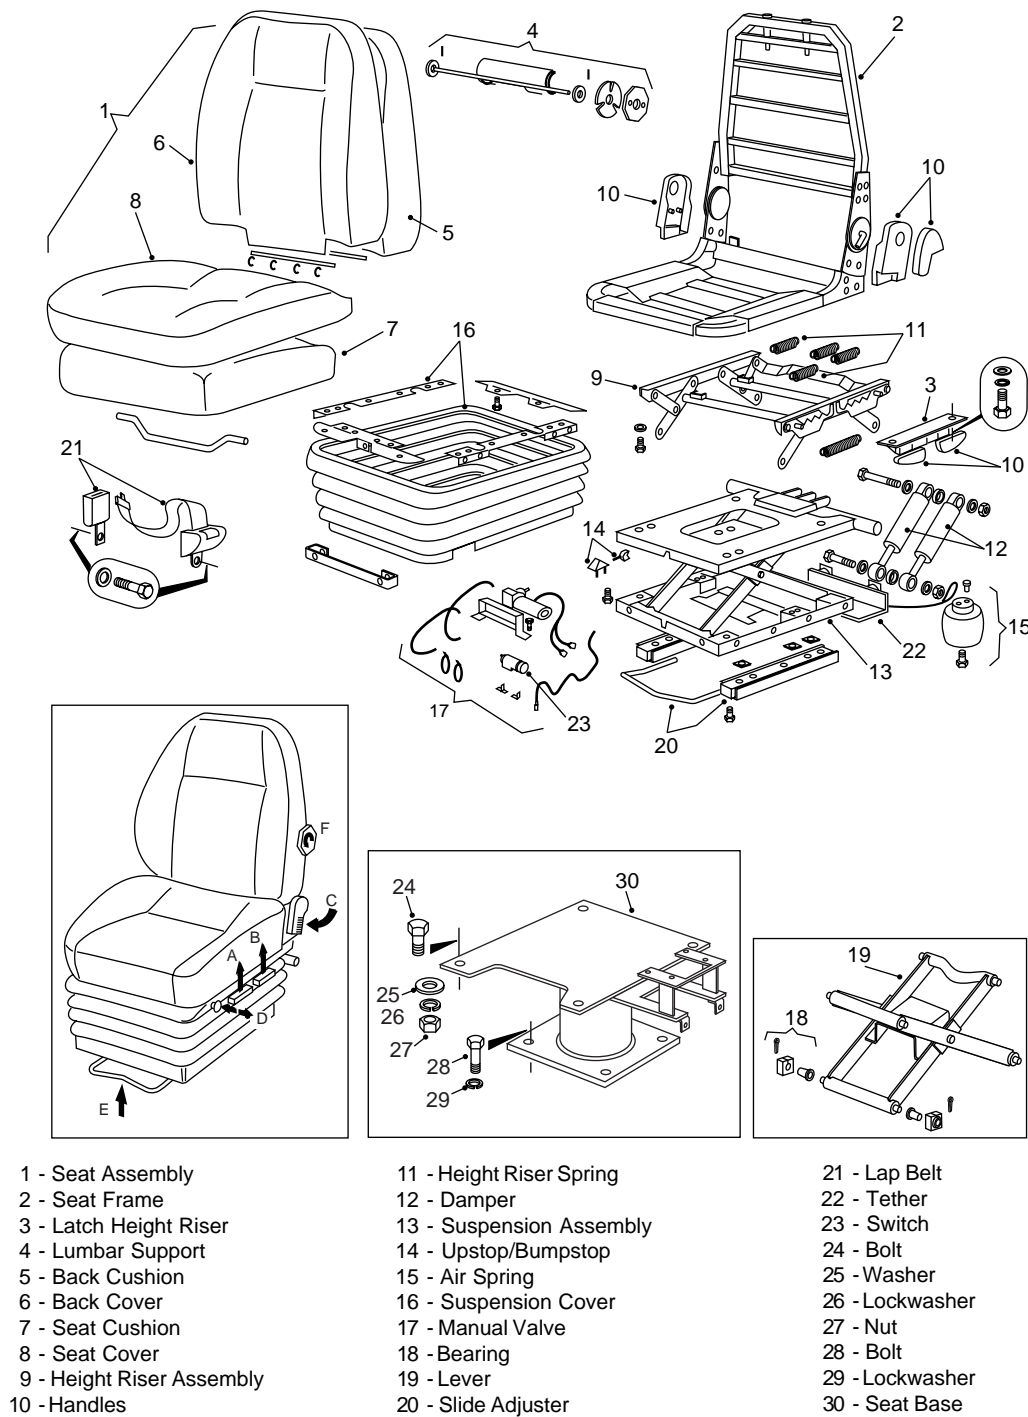

Fig. 1 - Exploded View of Driver Seat
2. If required, fit new inserts (15, Fig. 1) to hinges.
3. Attach a suitable lifting device to LH door assembly (3, Fig. 1) and align the door assembly to hinges on cab. Install pin (43), aligning holes and secure using split pin (44). Replace caps (45).
4. Check LH door assembly (3, Fig. 1) for correct operation and also that the locks are operating correctly.
Numbers in parentheses refer to Fig. 1.